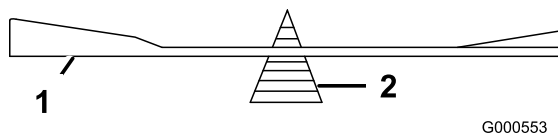

Figure 56
2. Check the balance of the blade by putting it on a blade balancer (Figure 56).